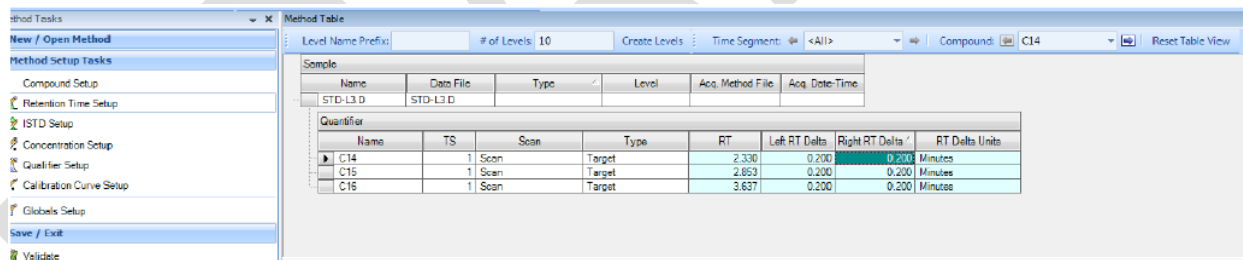

Fig.16
- f. Click the Retention time setup and check if the value is correct (Fig.16).